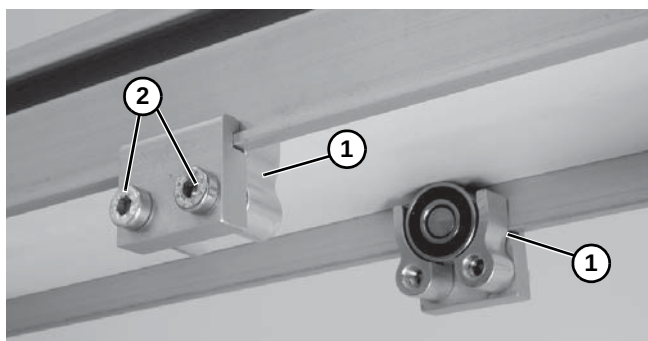

Figure 12
3. Install roller assemblies (**Figure 12, item 1**) as shown. Tighten screws (**Figure 12, item 2**) to 60 in-lb (7 Nm).